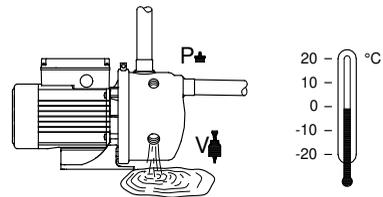

**Fig. 7** Cleaning the impeller
3. Remove screw (pos. 93) and clamp (pos. 92) holding pump sleeve (pos. 16).
4. Push pump sleeve (pos. 16) free of the motor stool with a screwdriver and take it off.
5. Pull ejector (pos. 14) out of the pump sleeve.
7. Check if impeller (pos. 49) is dirty. If that is the case, clean the impeller (in place) using a soft brush or a water jet. See fig. 7.